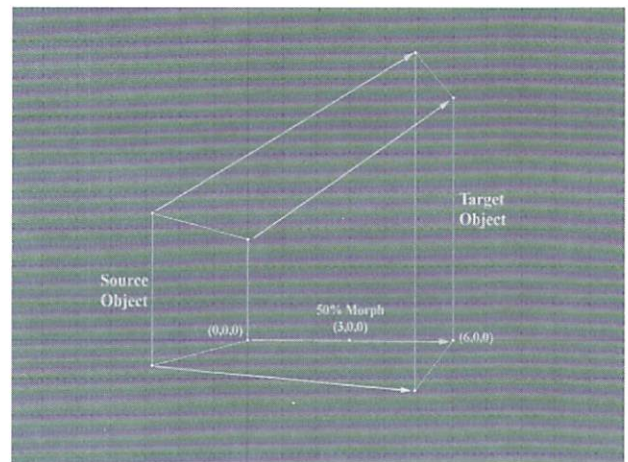

Figure 1: LightWave's linear morph.
(1) At the absolute base level of a morph, LightWave takes a certain point from the source object and the same point (determined by the point order) from the target object, and calculates the morphed point based on the Metamorph Amount at that particular frame. For instance, if the first point in the source object is at 0, 0, 0 and the first point of the target object is at 6, 0, 0, a Morph Value of 50% will cause the morphed point to be at 3, 0, 0 (Figure 1). Repeat this procedure for the number of points you have in your object, and you will end up with a 50 percent morphed object. So you can probably see why objects with the wrong point order turn into a mess of points instead of materializing into the target object, and why you need to have objects with identical point counts.
(2) The source object is the one that is affected, not